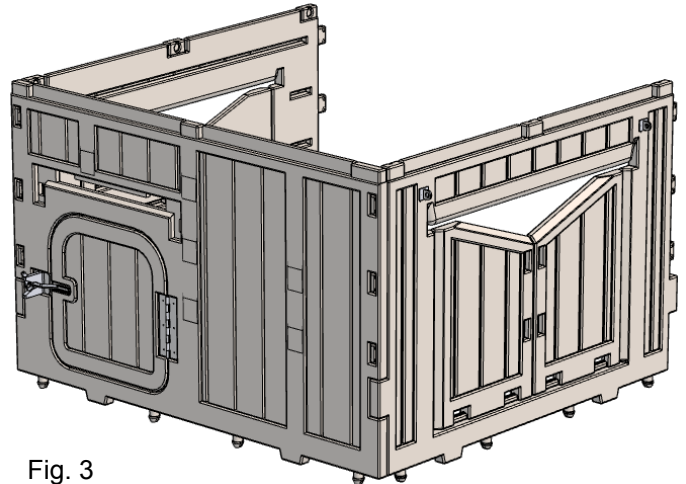

Fig. 3
**Step 3:** Assemble the Front Wall to the other Nest Side Wall by aligning, and then inserting the tabs on the Nest Side Wall into the slots of the Front Wall. (Fig. 3)